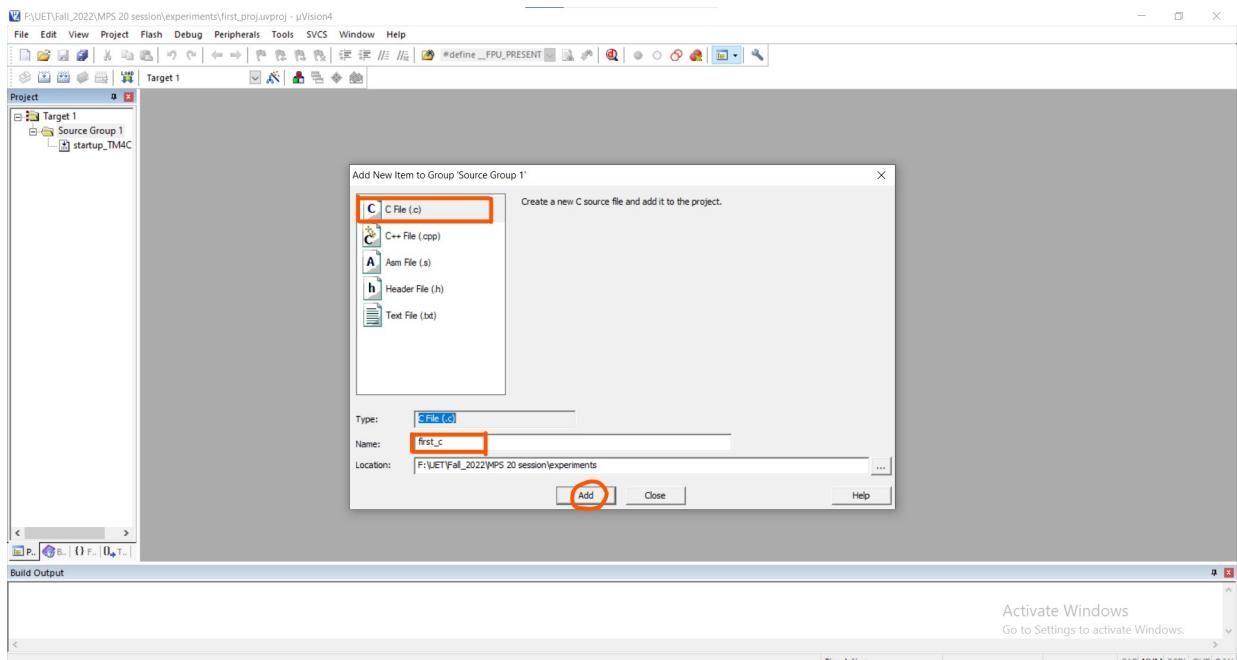

Figure 1.13: Add and save a new file to the project
6. Right click on *Source Group 1* under *Target 1*, click on **Add New Item to Group ‘Source Group 1’...** and select the type of file you want to add (.c for C file), write its name in given space and click *OK* (Figure 1.13).